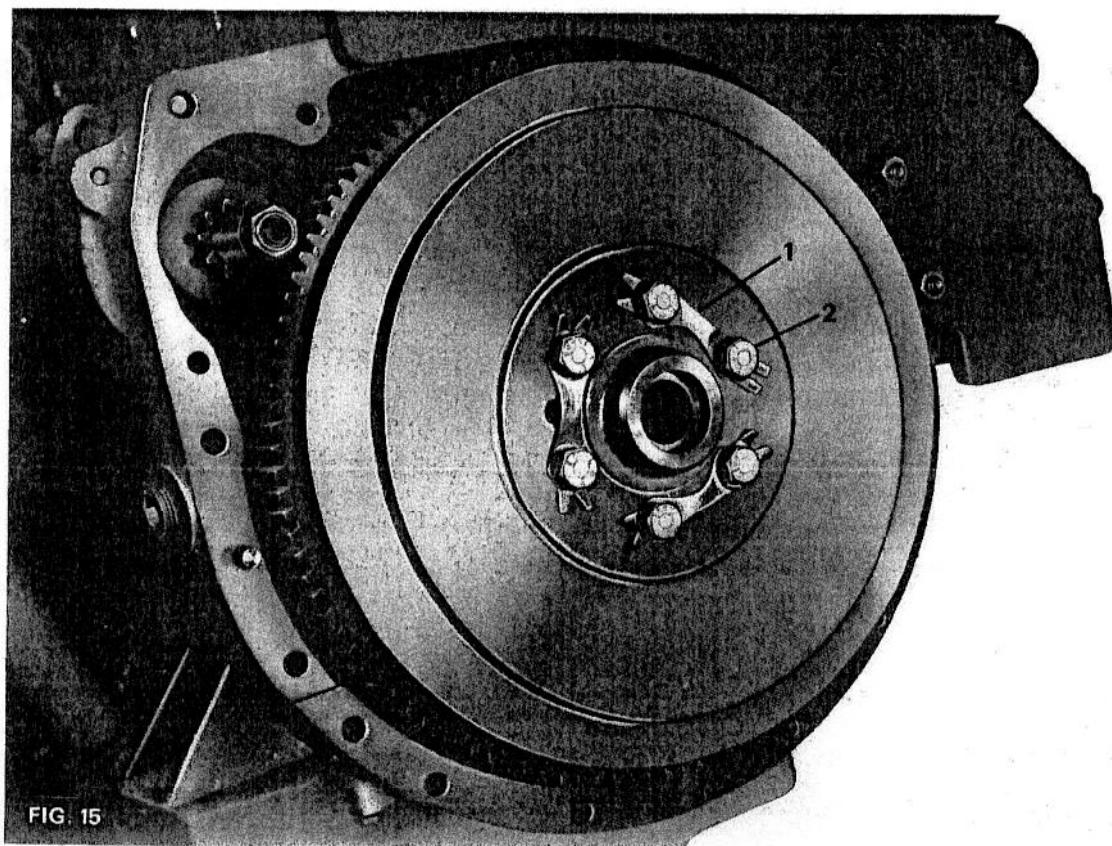

FIG. 15
3. (Fig. 15) Straighten the tab washers (1) and slacken the setscrews (2) that secure the flywheel to the crankshaft.